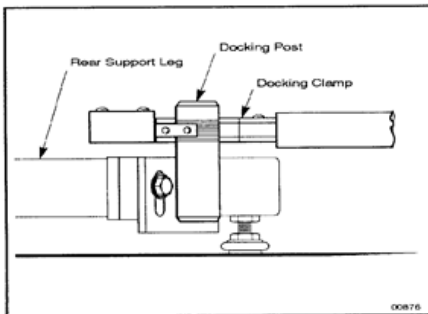

Figure 1-2 Docking Clamp and Post
5. Position the TEF Modular Component docking clamp (on rear base extension) next to the docking post. There should be an even amount of grooved area on the post above and below the clamp. Adjust plate up or down as needed. (See Figure 1-2.) With a 1/2" wrench, fully tighten the two hex head screws holding the docking plate and spacer to the rear support leg.